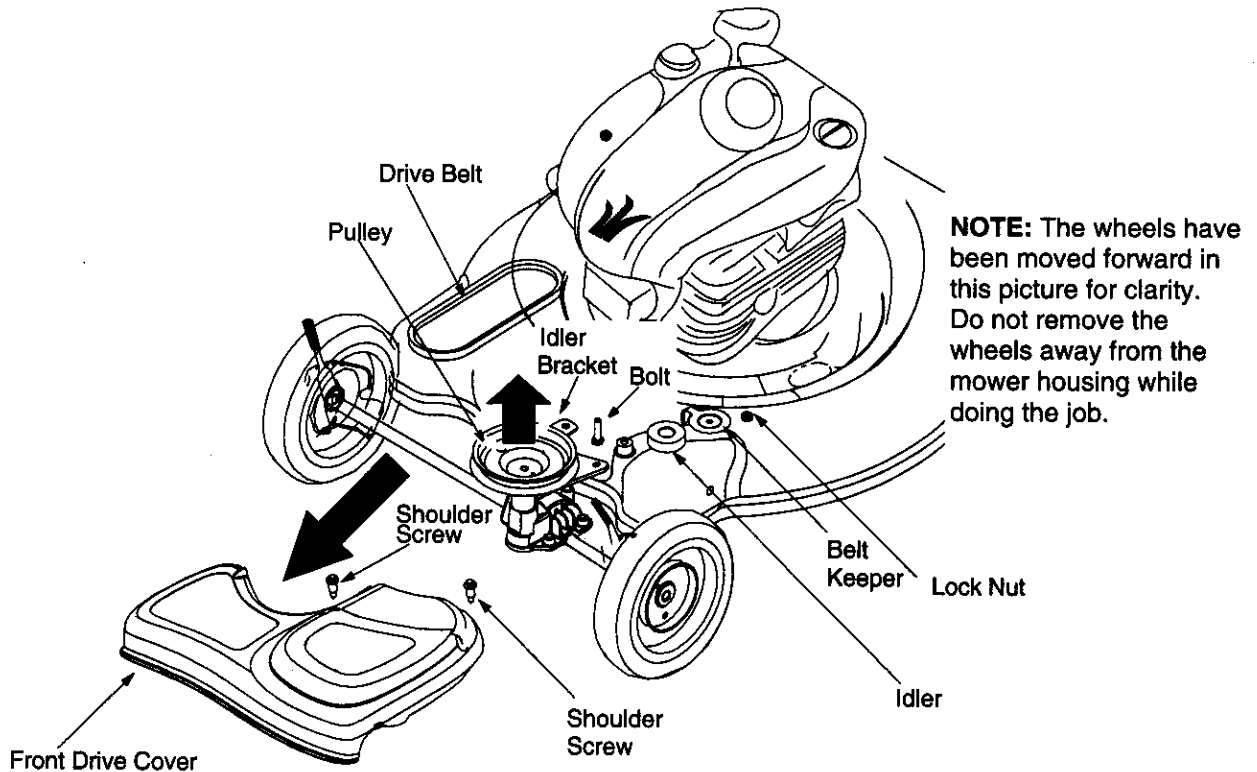

FIGURE 11
- Remove the two shoulder screws from on top of the deck which secures the front drive cover to the mower deck. See Figure 11.
- Remove the idler from the idler bracket using 7/16" wrench and socket. See Figure 11.
- Remove the belt from the transmission pulley as shown in Figure 11.